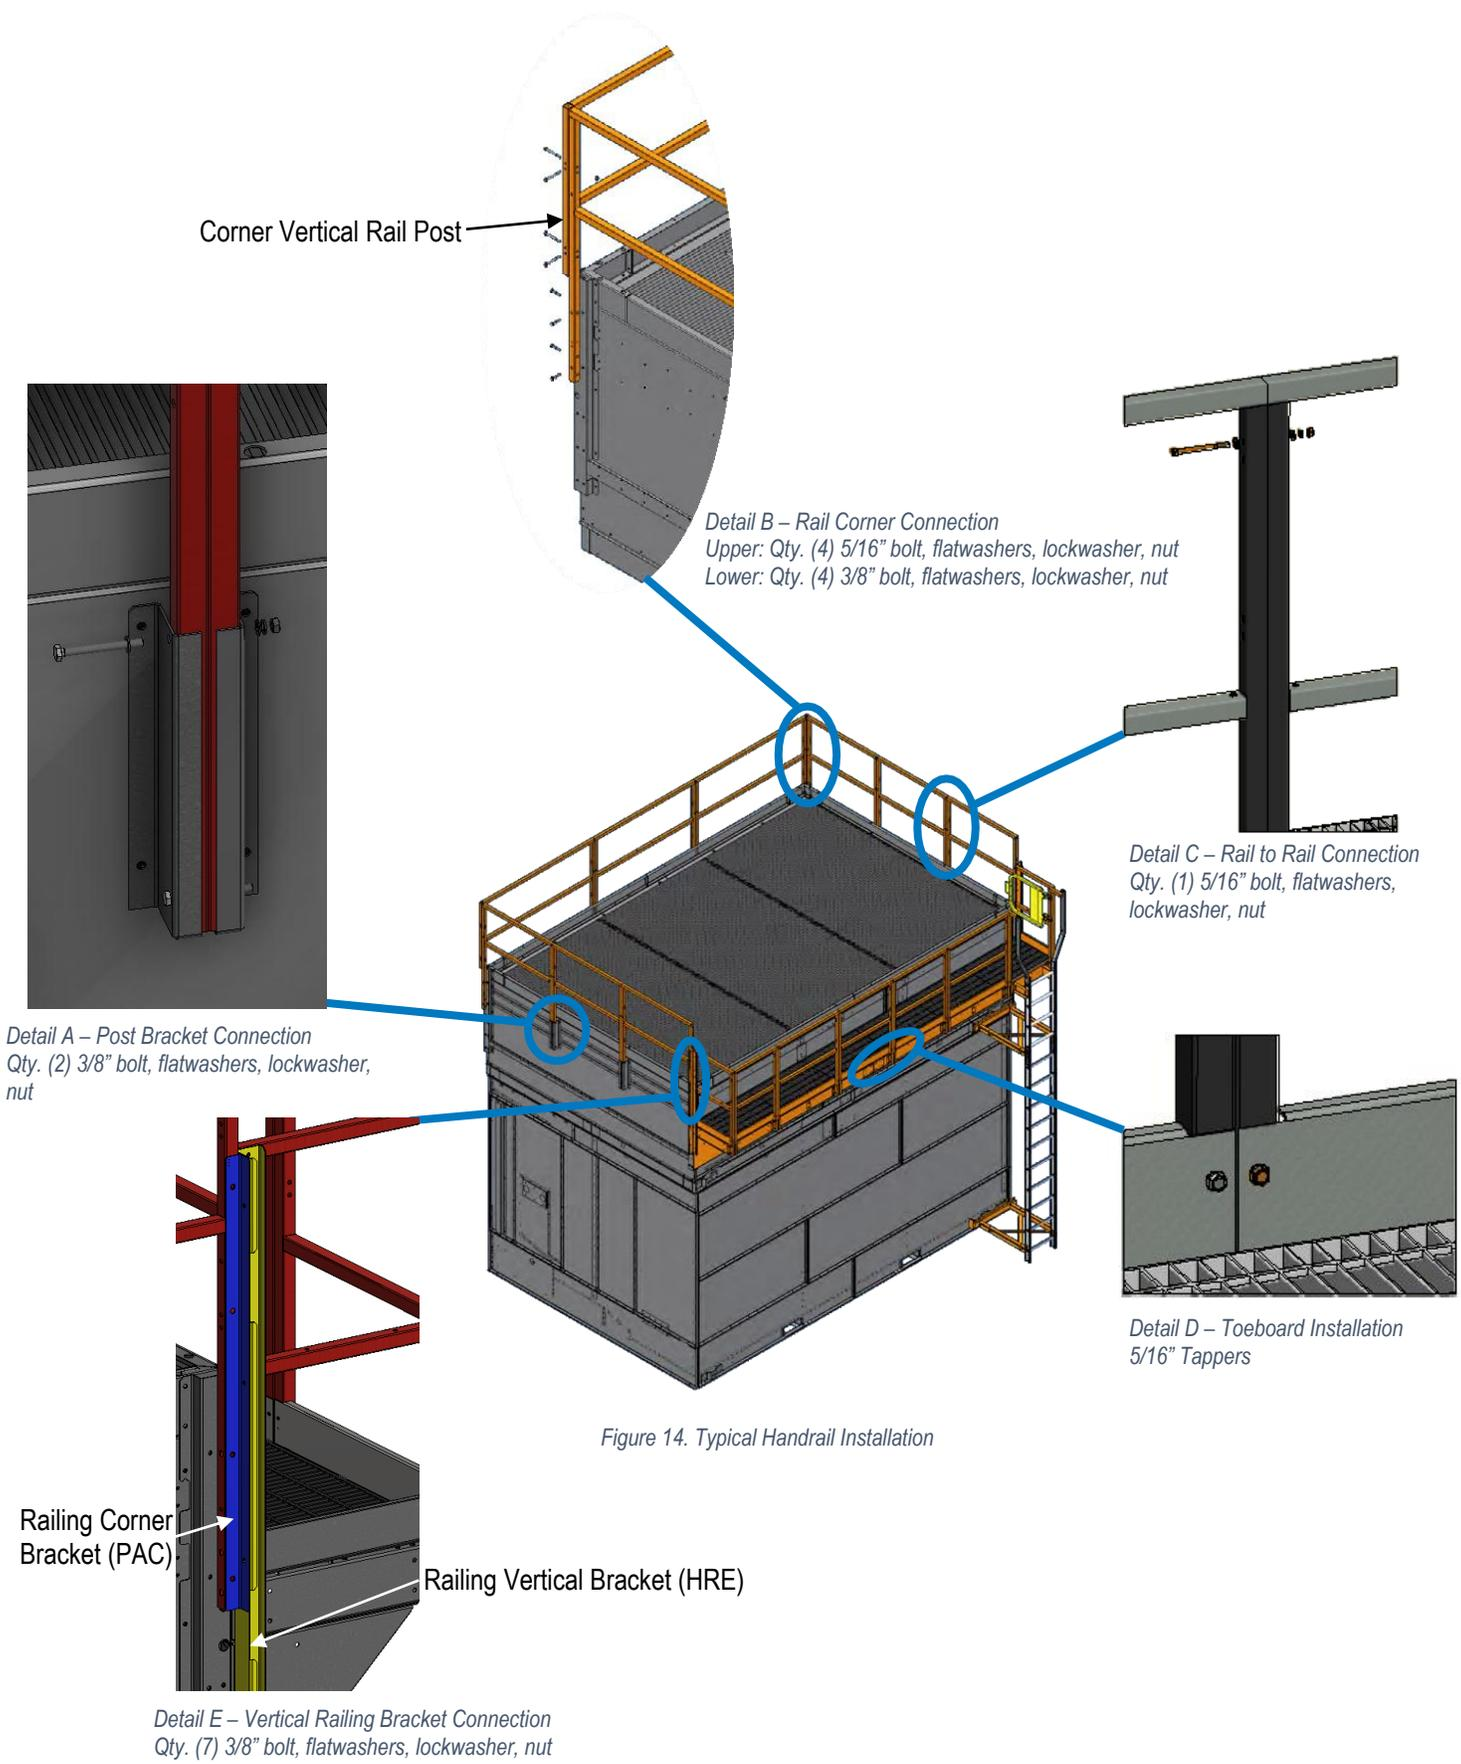

Figure 14. Typical Handrail Installation
8. Using the supplied hardware, install the perimeter handrails at the bracket points as shown in **Figure 14**.
NOTE: Rail corner connections require a Corner Vertical Rail Post. See **Figure 14 Detail B**.
9. At the point where two vertical support meet, install the factory supplied fastener through each support as shown in **Figure 14 Detail C**.
8. Install A-frame handrail section and toeboard. See **Figure 14** and **Figure 21**.